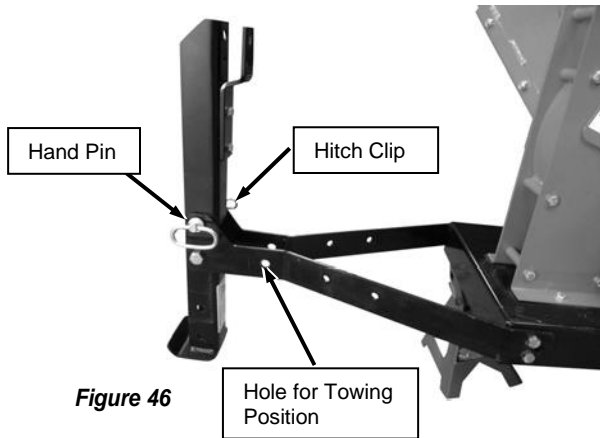

Figure 46
6. Position the Tow Beam/Stand so it is vertical and install the Hand Pin and Hitch Clip to secure it in the upright position (**Figure 46**). This is the operating Position when the machine is off the tow vehicle.